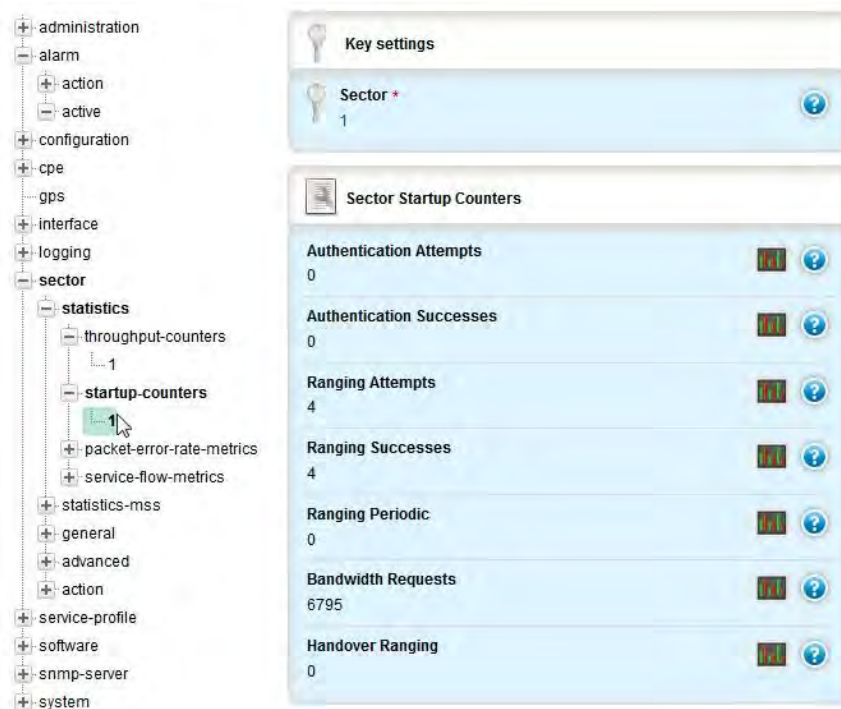

Figure 144 Sector Statistics Startup Counters
- For the ***startup-counters*** menu option, the following ***Sector Startup Counters*** are displayed (Figure 144):